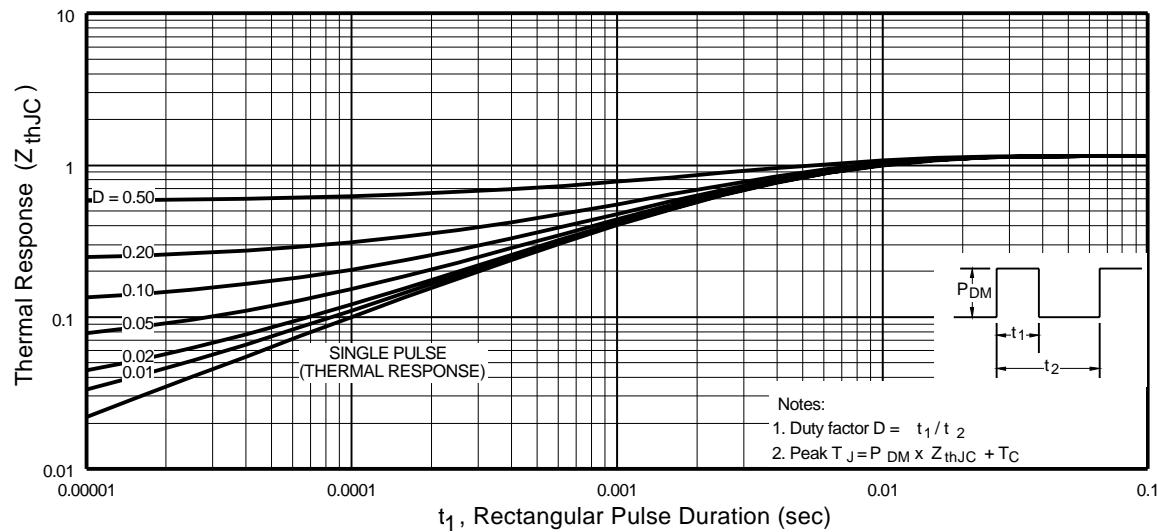

Fig 11. Maximum Effective Transient Thermal Impedance, Junction-to-Case
- ① Repetitive rating; pulse width limited by max. junction temperature. (See fig. 11)
- ② Starting $T_J = 25^\circ\text{C}$, $L = 0.37\text{mH}$